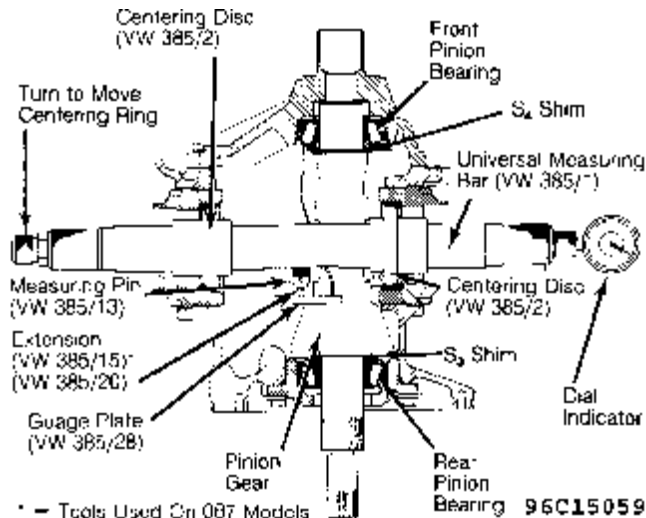
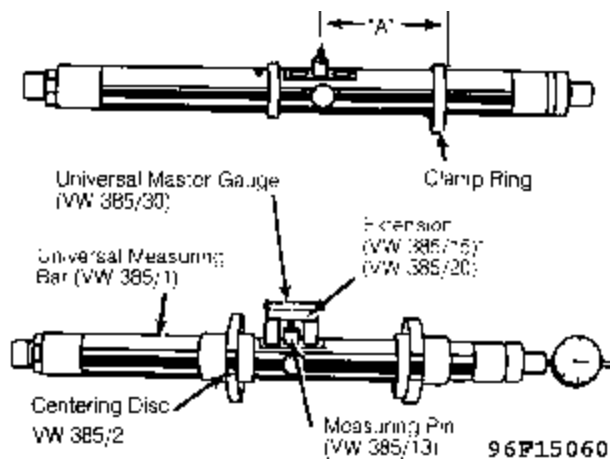

Fig. 22: Installing Measuring Tools for 089 Model Pinion Depth
Fig. 23: Measuring Tools for Pinion Depth Shim Selection
6) Reinstall pinion shaft in housing. Reinstall rear cover and tighten bolts. Turn pinion in both directions several times. Install Gauge Plate (VW 385/28) on pinion shaft. See Fig. 22. Adjust the clamp ring on Universal Measuring Bar (VW 385/1) until distance "A" is 3.23" (82 mm) for 087 models or 2.28" (58 mm) for 089 models. See Fig. 23.
9) All 087 models have "R0" of 46.60 mm. All 089 models have "R0" of 40.55 mm. Individual master gauges are available. All 087 models use Master Gauge (VW 385/26). All 089 models use Master Gauge (VW 385/5). With bar assembled and master gauge in place, set dial indicator with .118" (3.0 mm) preload on all models. See Fig. 23.